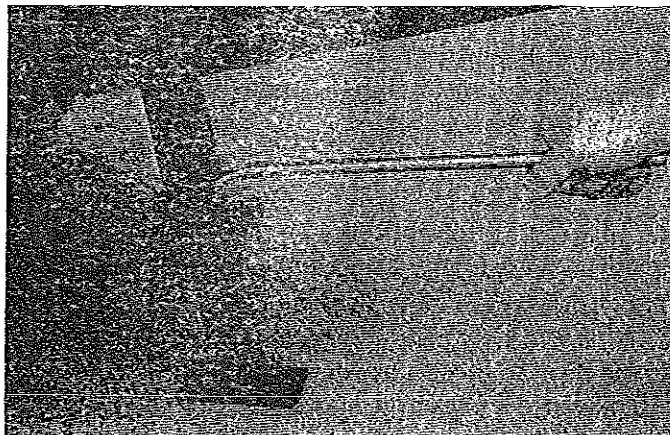

FIGURE 9
15. Remove the stabilizer handle from the recommended stowage area in the access door. Using the stabilizer jack handle, extend the inner legs of the stabilizer jacks to stabilize the trailer, making sure the handle is inserted through rear hole. Remove jack handle and stow. See Figure 9.